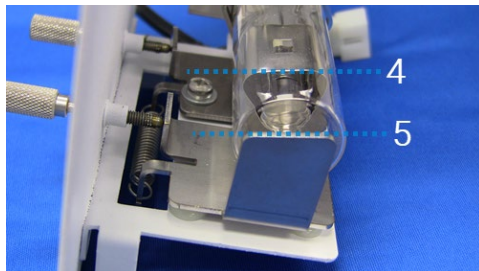

Figure 88. D2 lamp alignment (end view)
- 9 Rotate the lamp so that the face with the aperture (4) is parallel with the top edge of the bracket (5) – see Figure 88 below.